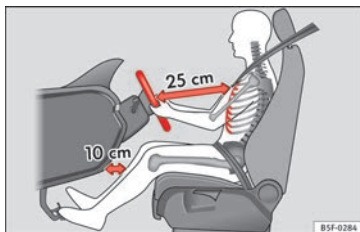

Fig. 84 The proper distance between driver and steering wheel.
- Adjust the steering wheel so that there is a distance of at least 25 cm between the steering wheel and the centre of your chest » **Fig. 84.**
- Adjust the driver's seat so that there is at least 25 cm distance between the centre of the chest and the centre of the steering wheel » Fig. 84. If you are sitting closer than 25 cm, the airbag system cannot protect you properly.